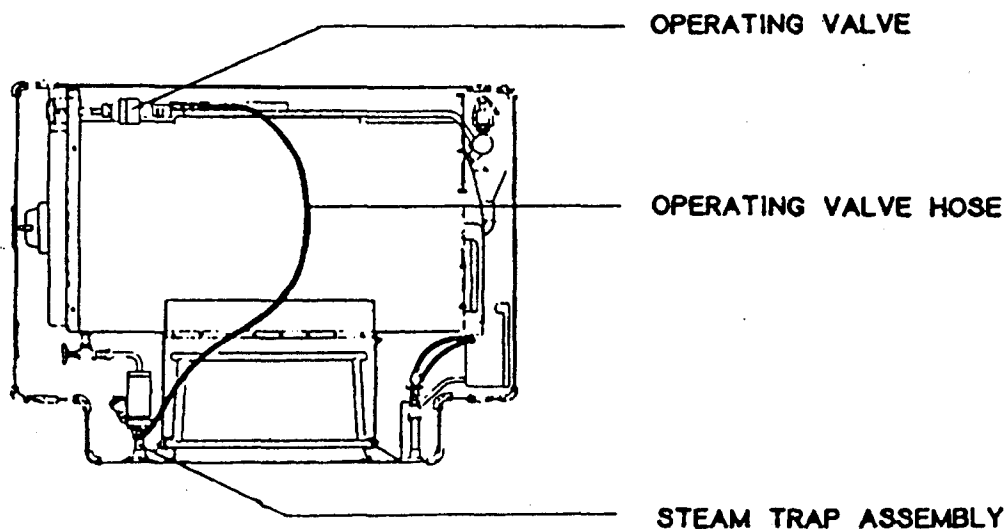

Figure 2-8. Operating Valve Hose Routing.
i. Routing the hose: Route the operating valve hose around the right side of the chamber (same side as the operating valve) to the steam trap assembly as shown in figures 2-8 and 2-9.